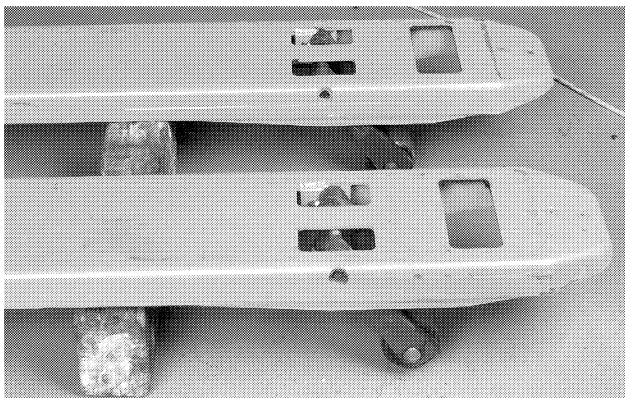

Figure 2-1. Blocking the Fork Section
7. Block the fork section as shown in Figure 2-1. The tractor section will remain on the floor.